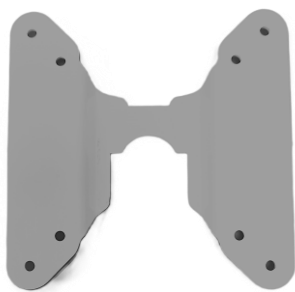

Figure 9 - VESA fitting
3. **Fasten the device to the arm.** On the bottom of the device there is a fitting (see Figure 9). To attach the device to the holder, slide the fitting onto the VESA connector until you hear a "click," indicating that the device is securely attached.